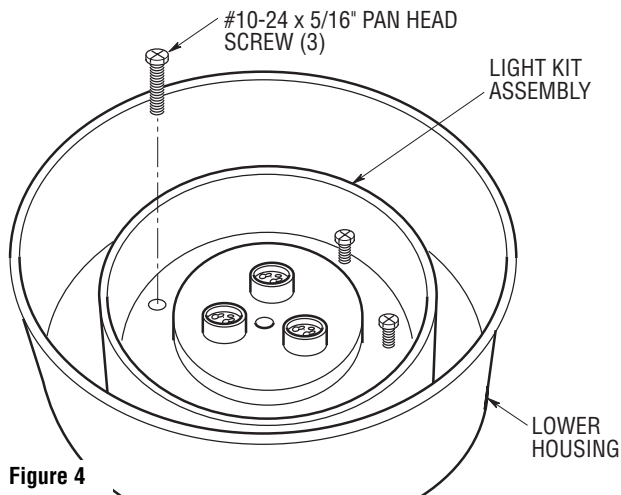

Figure 4
- 5. Install the three #10-24 x 5/16" pan head screws to secure the light kit assembly to the lower housing (Figure 4).